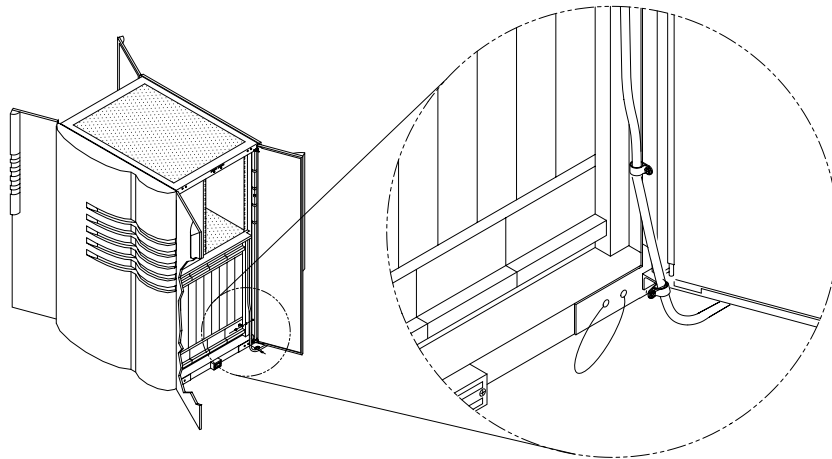

FIGURE 5-5 Moving the AC Sequencer Power Cord Screw
- 8. Move the screw that secures the AC sequencer power cord to another attachment point (FIGURE 5-5).**